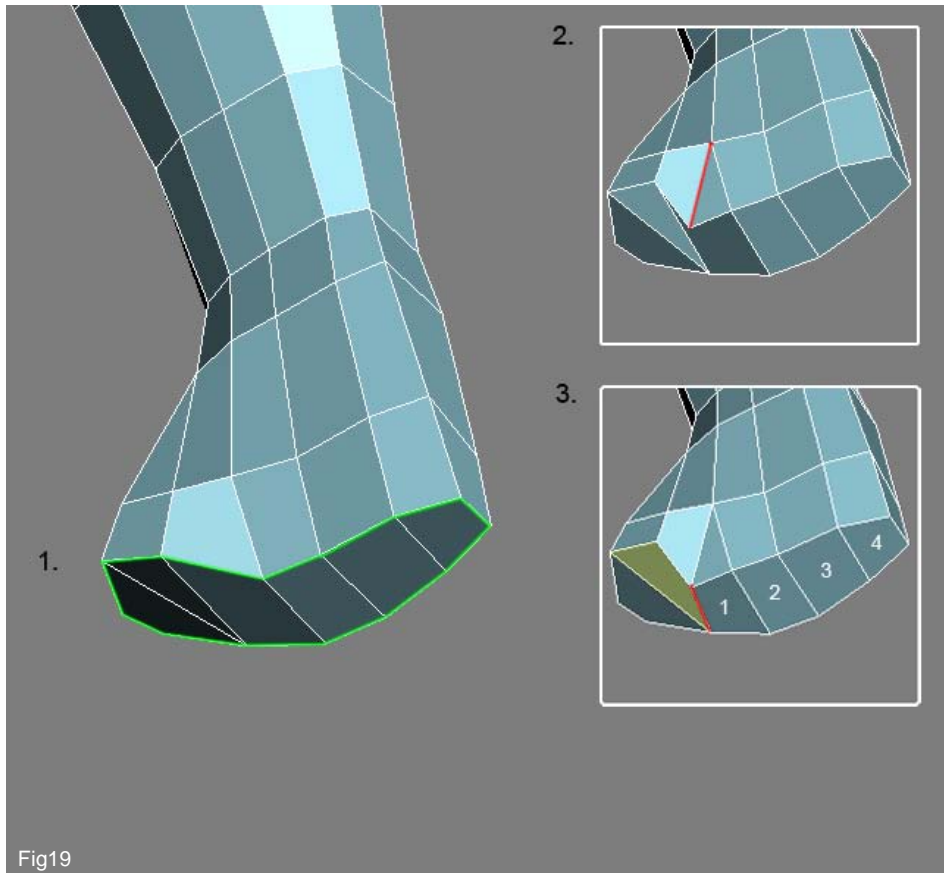

Fig19
19. When we look at Fig19 we can see the underside of the hand on the left. We have four poly's that can be used to extrude the four fingers but the shapes including the thumb area need re-shaping slightly before we do this. First make a cut as indicated by the red line (inset 2) and then move the new vert down slightly. Follow with a cut from this new vert to the outside of the hand (red line on inset 3). Now delete the two triangles next to it and create a quad (shaded in green) which will result in a row of four quads ready to create the fingers and the beginnings of a thumb.